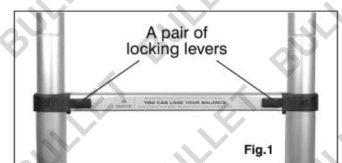

Fig.1
- Each mechanism is connected to a locking lever visible on the outside (see Fig. 1). The locking levers have 2 purposes. They indicate whether the mechanism is locked (or not), and they serve as buttons for releasing the pins (lowering the ladder).